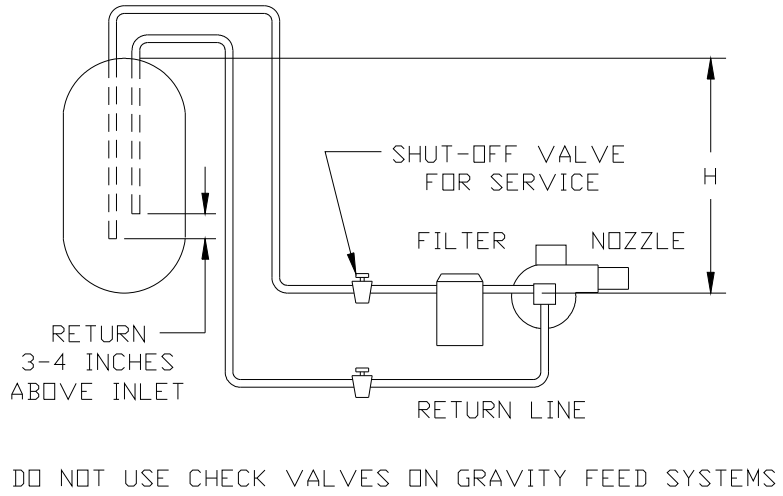

FIGURE 15: TWO-PIPE GRAVITY FEED SYSTEM
- c) **TWO-PIPE GRAVITY SYSTEM (not recommended)** - Used when a fuel oil storage tank is located above an oil burner fuel pump. See Figure 15. A vertical distance from top of the tank to center line of the pump (Dimension 'H') over 8 feet will result in a pump inlet pressure in excess of the 3-psi limit in NFPA-31. This type of system should be converted to a one-pipe gravity system, as doing so will result in lower inlet line flow and longer filter life.